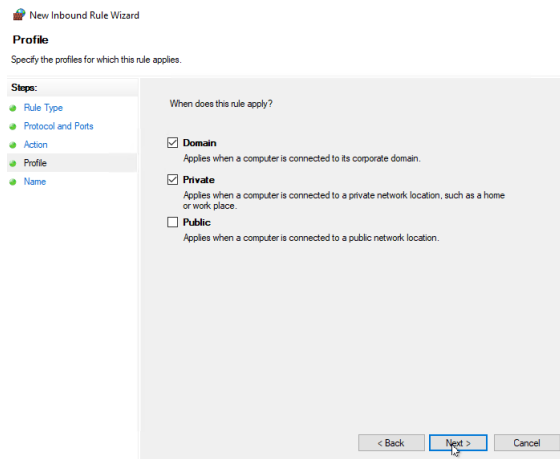

Figure B.5. New firewall rule: profile
5. Select **Allow the connection** and **Next**. The next dialog page Figure B.5 will appear.